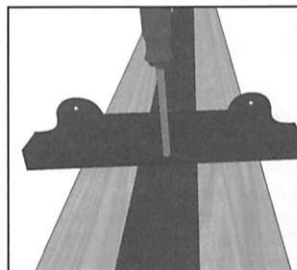

Figure 4A
STEP 4 Taking a piece of 1" x 6" fence boards or 5/4" deck boards, cut to length 1/16" to 1/8" inches shorter than the distance of the opposing brackets. Fit the boards onto the brackets, and secure with the mounting screws supplied (#8, 5/8 inch) (Figure 5). Ensure the mounting bracket screw slots are facing inside your enclosed area (Figure 4A).